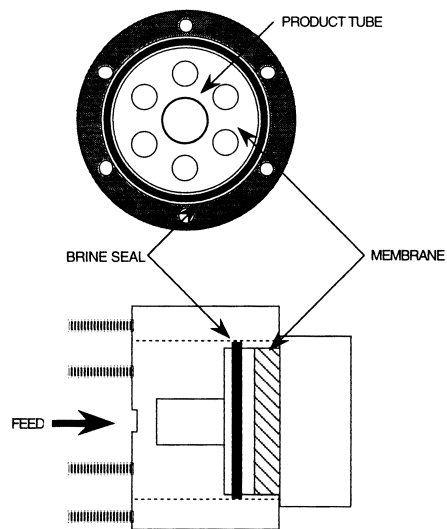

Figure 6.1 - Brine Seal Orientation
- 4) After end caps are off, note which end of the membrane has the brine seal. This is the feed end of the pressure vessel. When reinstalling the RO membrane, the brine seal must be located at the feed end of the pressure vessel. Note the feed flow direction marked by a sticker on the outside of the pressure vessel, or trace the flow direction from the high pressure pump to confirm the high pressure flow direction. See Figure 6.1.